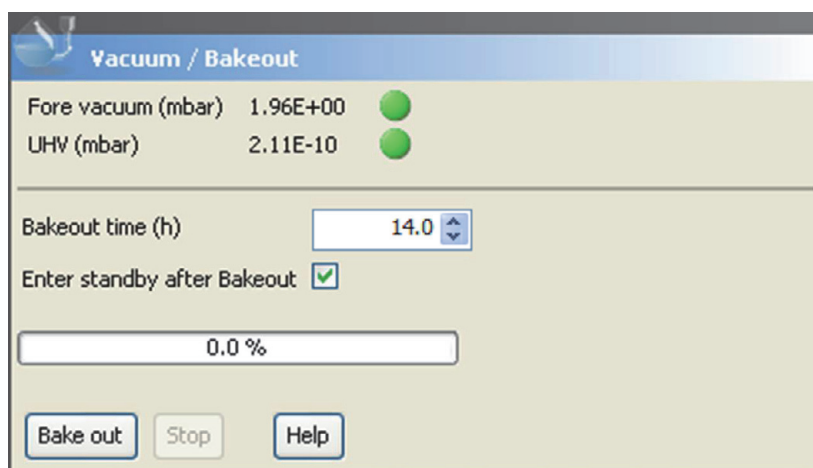

Figure 5-6. Vacuum / Bakeout window
3. Enter the desired baking duration (in hours) into the spin box. The range is 4 to 100 hours. See Figure 5-6.